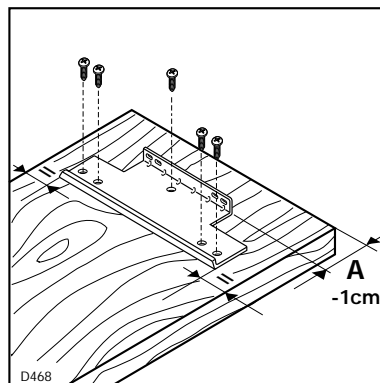

Fig. 9
Lay the panel face down (Fig. 9). Position the top bracket on the panel, making sure that there is an equal distance between it and the sides and that its distance from the top edge is equal to distance (A) less 1 cm.